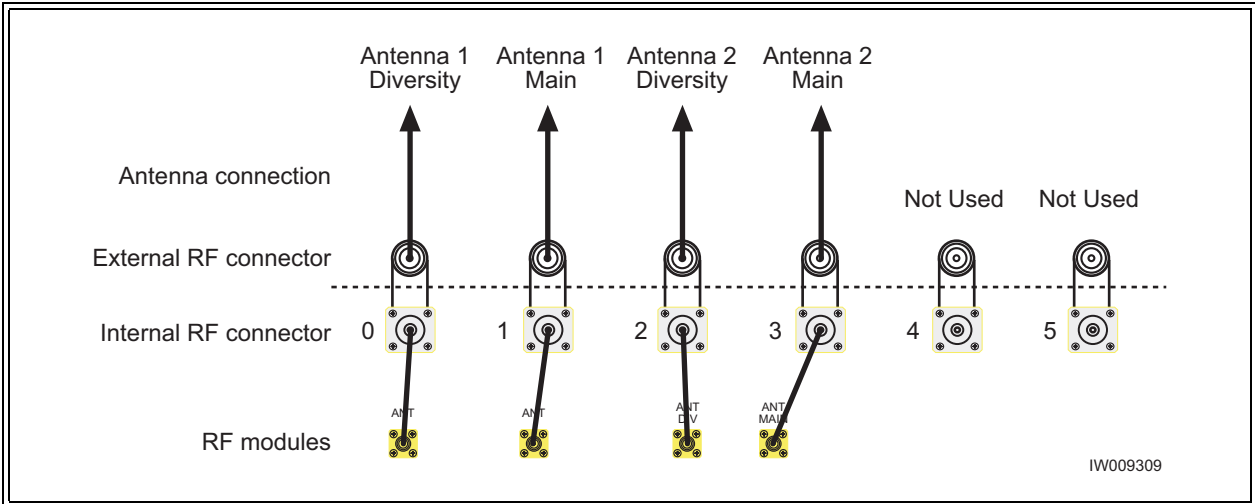

Figure 2-27 Antenna Cabling for S32 Configuration
- Connect your antennas as shown in Figure 2-27.